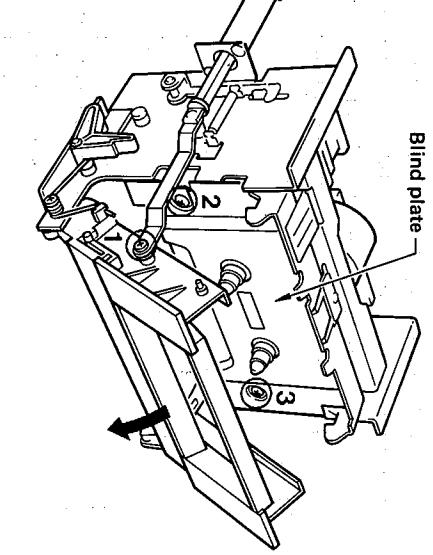

Fig. 5
- j. Be careful of the spring position when assembling unit. (Refer to fig. 5)
- l. Remove screws ② and ③ in fig. 5 and then remove the blind plate.
- a. Remove screw ① in fig. 5 and open the cassette holder.
- b. Be careful of the spring position when assembling unit. (Refer to fig. 5)
- f. Be careful of the spring position when assembling unit. (Refer to fig. 5)
j. Be careful of the spring position when assembling unit. (Refer to fig. 5)
n. Be careful of the spring position when assembling unit. (Refer to fig. 5)
r. Be careful of the spring position when assembling unit. (Refer to fig. 5)
v. Be careful of the spring position when assembling unit. (Refer to fig. 5)
z. Be careful of the spring position when assembling unit. (Refer to fig. 5)
dd. Be careful of the spring position when assembling unit. (Refer to fig. 5)
hh. Be careful of the spring position when assembling unit. (Refer to fig. 5)
ll. Be careful of the spring position when assembling unit. (Refer to fig. 5)
pp. Be careful of the spring position when assembling unit. (Refer to fig. 5)
tt. Be careful of the spring position when assembling unit. (Refer to fig. 5)
xx. Be careful of the spring position when assembling unit. (Refer to fig. 5)
bb. Be careful of the spring position when assembling unit. (Refer to fig. 5)
ff. Be careful of the spring position when assembling unit. (Refer to fig. 5)
jj. Be careful of the spring position when assembling unit. (Refer to fig. 5)
nn. Be careful of the spring position when assembling unit. (Refer to fig. 5)
rr. Be careful of the spring position when assembling unit. (Refer to fig. 5)
vv. Be careful of the spring position when assembling unit. (Refer to fig. 5)
zz. Be careful of the spring position when assembling unit. (Refer to fig. 5)